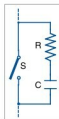

Fig. 1: Most popular snubber circuit
The resistor-capacitor (RC) snubber shown in Fig. 1 is the most popular snubber circuit. The circuit provides a short-term alternative current path around the current-switching device, so that inductive element may be discharged more safely and quietly. Snubbers are also used to prevent arcing across contacts of relays and switches, and electrical interference and welding/sticking of contacts that can occur. Refer the following links for the design of snubbers for power circuits: